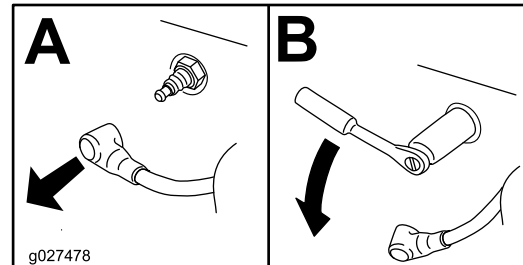

Figure 23
3. Remove the spark plug (Figure 23).